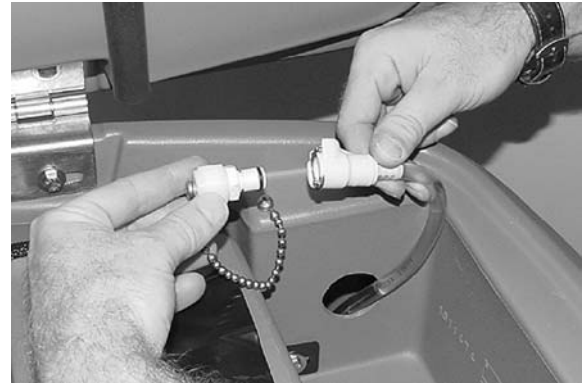

FIG. 69
7. Remove the valve coupling and connect the supply hose to the storage plug (Figure 69).